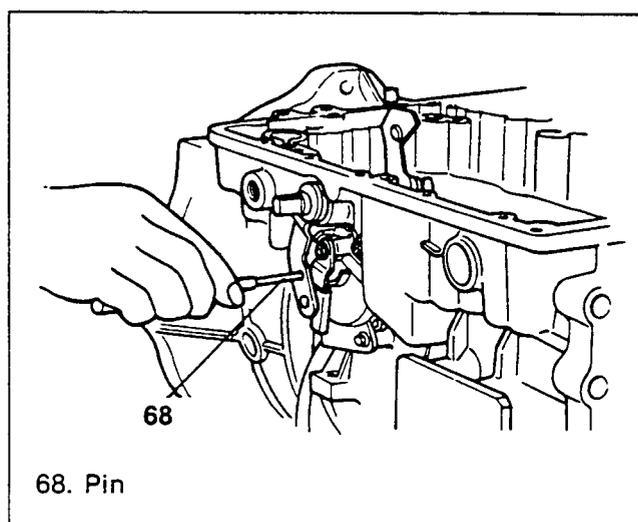

Figure 241. Inhibitor Switch Alignment
4. Insert pin (4.0 mm /0.16 in in diameter) vertically into the hole, which decide the positions of the inhibitor switch and the manual shaft lever, and bolt them (figure 241).